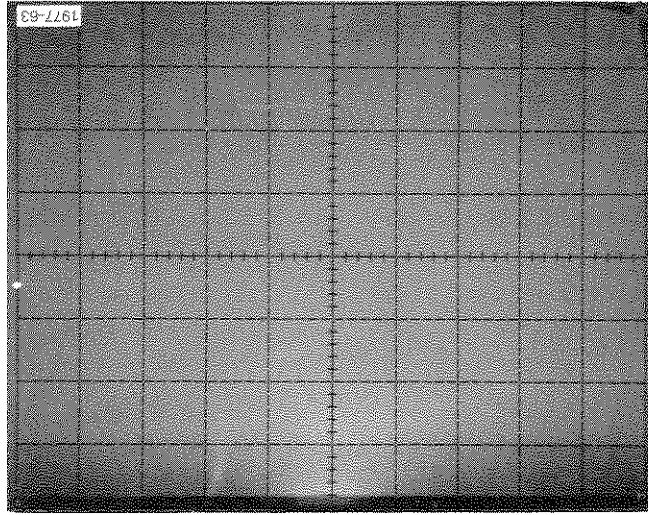

Fig. F-11. Display of output leakage current check.
- h. Set the VERT UNITS/DIV switch to 50 pA and check the output leakage current (the amount of vertical shift from the display zero reference established in part e). The specified limit for the MC3302P is 1  $\mu$ A maximum—see Fig. F-11.